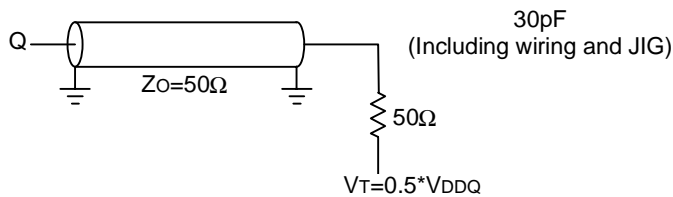

Fig.1 Output load
(1) MEASUREMENT CONDITION
- Output load Fig.1
Note26. Test conditions is specified with the output loading shown in Fig.1 unless otherwise noted.